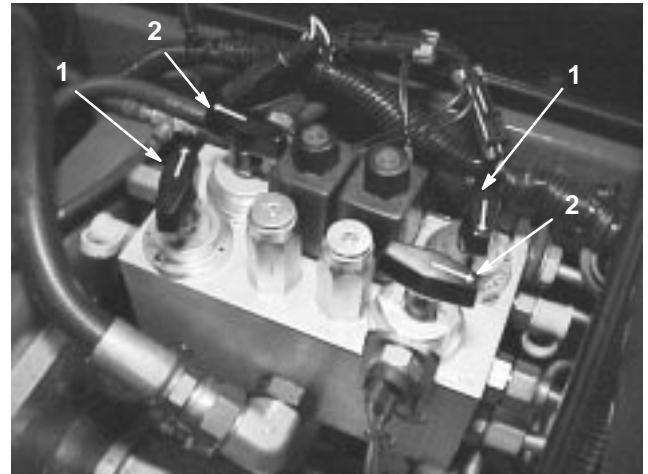

Figure 14
3. Locate the reel speed selector knobs and backlap knobs (Fig. 14). Rotate the desired backlap knob(s) to the backlap position and the desired reel speed selector knob(s) to position “1.”